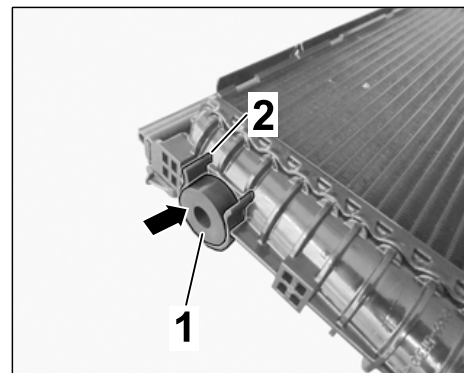

Figure 10
- 3.1.4 Insert bottom rubber mounting at the left/right ⇒ *Figure 10 -1-* into the lower bracket ⇒ *Figure 10 -2-*.